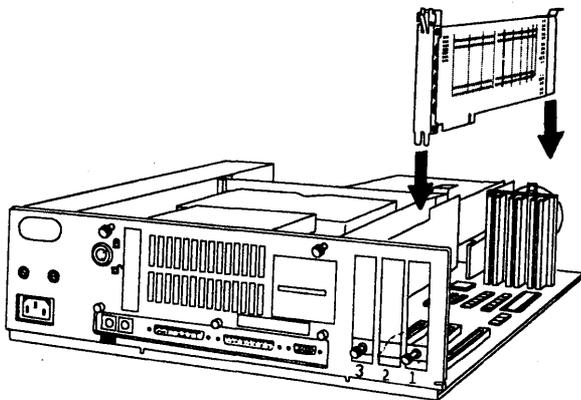

Figure 20: Installing the Tape Controller Card in the Model 50
8. Install the tape controller card into your expansion slot as shown in Figure 20.